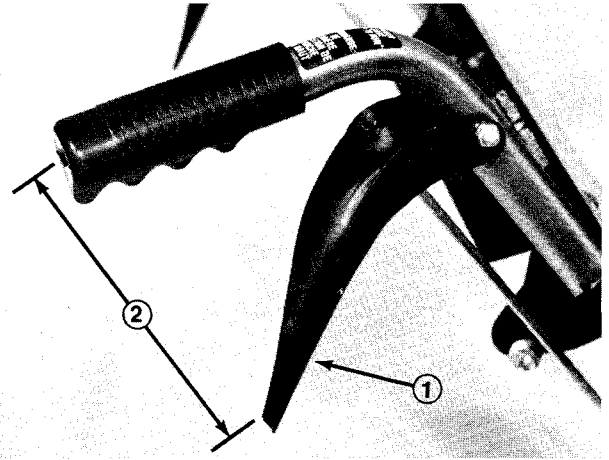

Figure 8
3. Check the distance between the center of the handle and tip of the auger control lever (Fig. 8). Distance should be approximately 6 to 6-1/2 inches (15.2 to 16.5 cm).